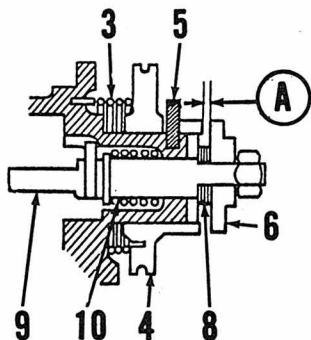

Fig. Y4-7—Clearance (A) is adjusted by varying shims (8).
Check the minimum plunger stroke by turning starter plate (16) until clearance (A—Fig. Y4-7) between pulley and adjusting plate is at its minimum. Clearance (A) should be 0.20–0.25MM (0.008–0.010 inch). If clearance is incorrect, add or deduct shims (8).